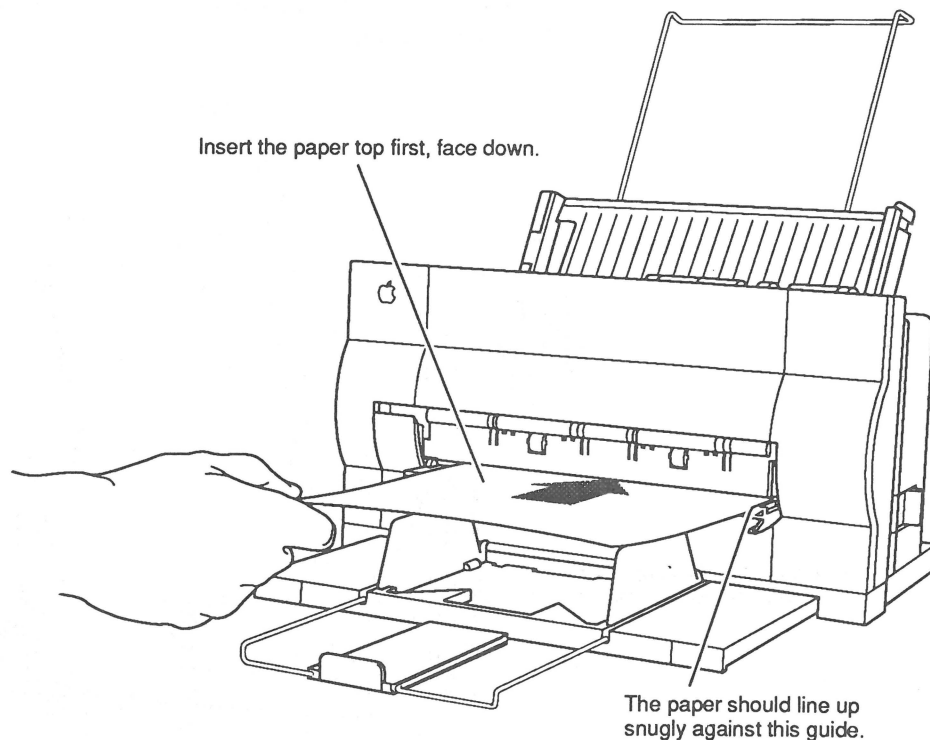

Figure 1-10 Manual Feed (Front Slot)
5. Insert the sheet of paper as far as it will go into the front slot of the printer. **(Figure 1-10).**